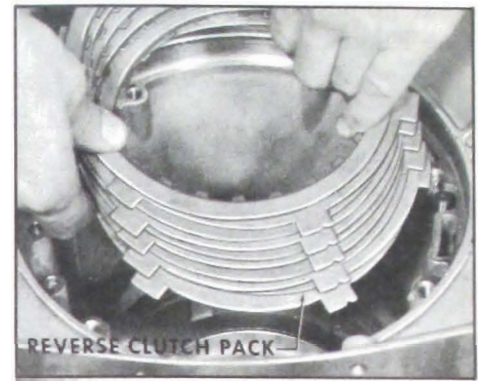

Figure 5-294
8. Align notches on the steel driven plates. Install the steel driven plates and lined drive plates alternately, beginning with a steel driven plate. The notched lug on each driven plate goes in the 5 o'clock groove in case. See Figure 5-294.